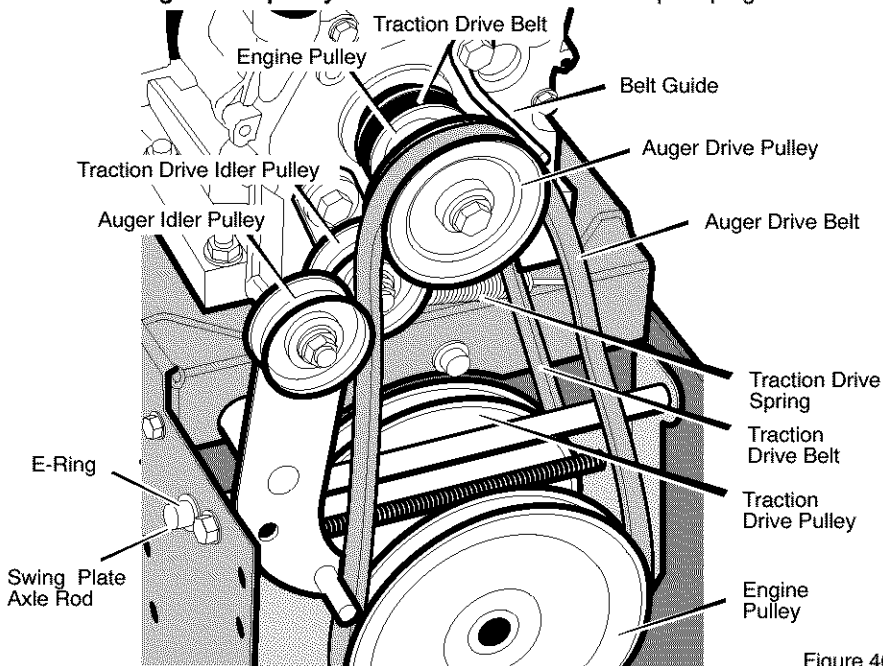

Figure 40
3. Loosen nut on auger idler pulley and move auger idler pulley towards belt about 1/8 inch (3 mm) (see Figure 40).
- Loosen the **belt guide**. Pull the **belt guide** away from the **auger drive pulley** (see Figure 40).
3. Remove the **e-ring** from one end of the **swing plate axle rod**. Remove the **swing plate axle rod** to allow the swing plate to pivot forward (see Figure 40).